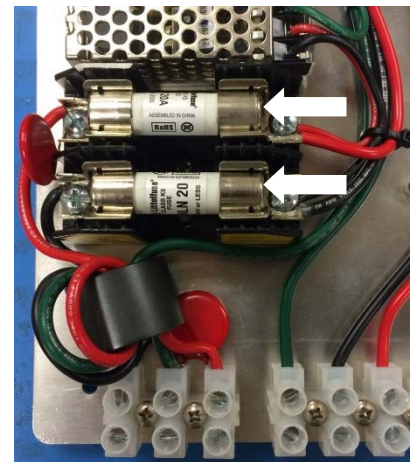

Figure 14 – Power Fuse
7. Remove and replace fuses with Littlefuse P/N 0N1LN020.T. (See Figure 14).